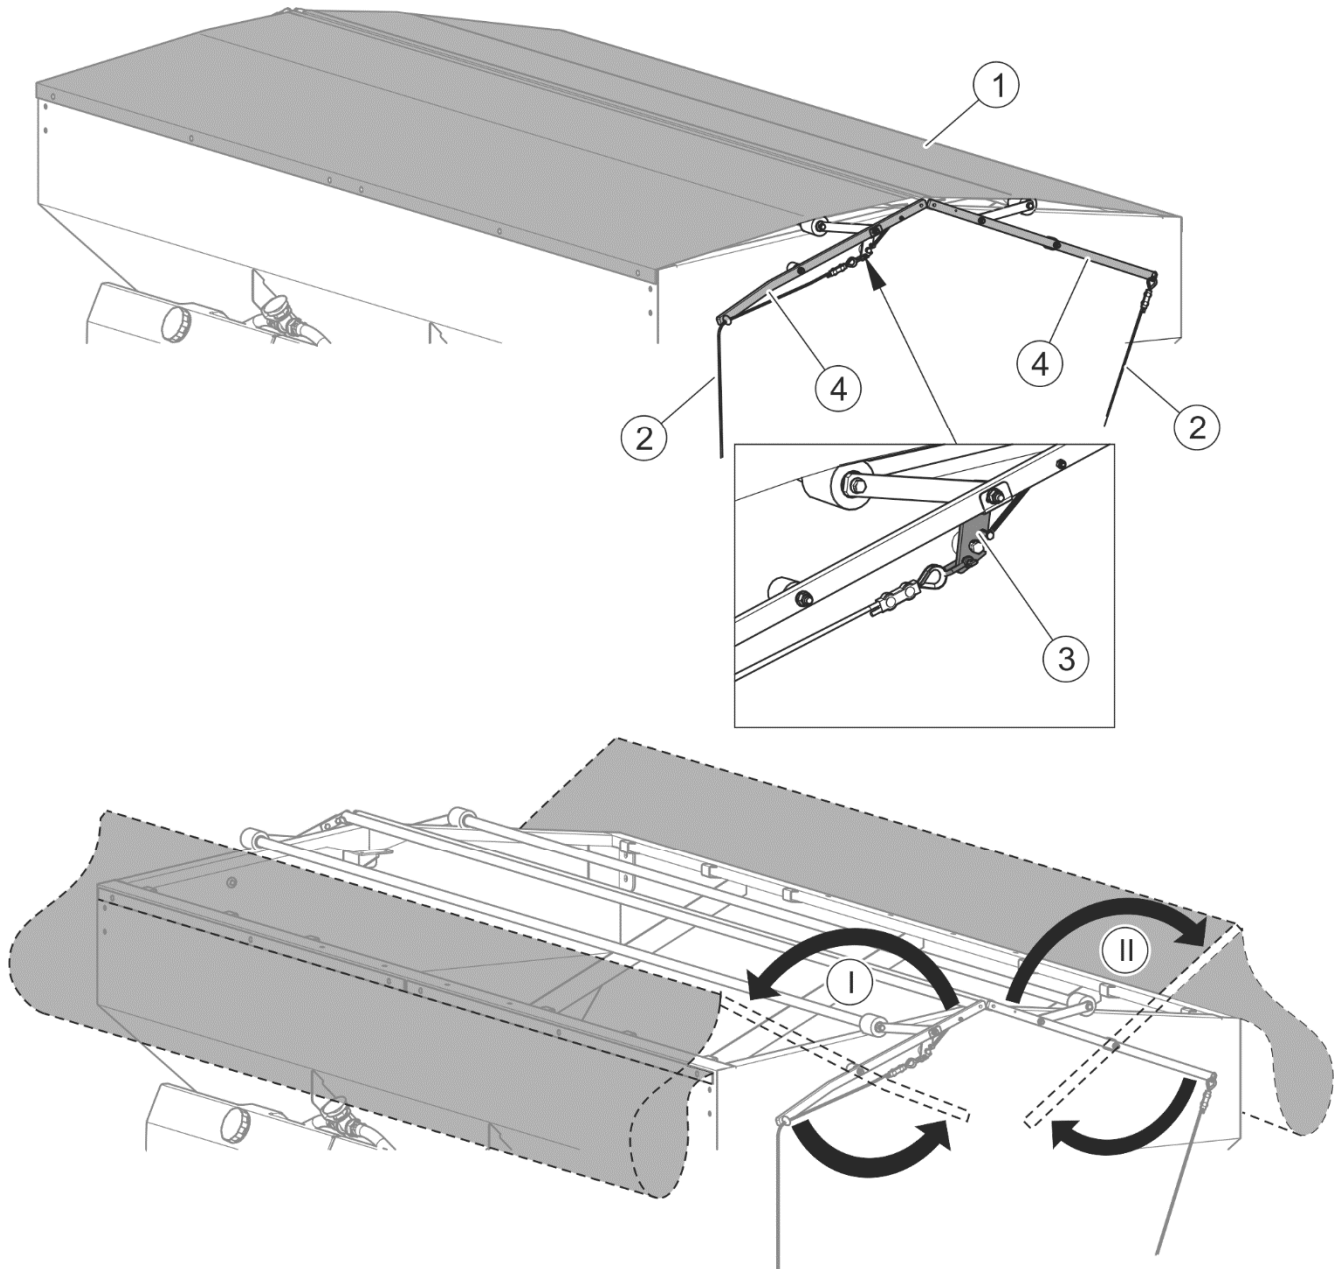

FIGURE 4.18 Raising the tank's tarpaulin cover
- hold the ladder (1) and remove securing cotter pin (3),
- lower the ladder (1).
Release pawl (3) by pulling a cord and raise tarpaulin cover by means of frame lever (4). Tarpaulin cover rising sequence (I) - (II) is shown in (FIGURE 4.18).
(1) - tarpaulin cover; (2) – pawl cord; (3) – pawl; (4) – lever
Before loading, check that there are no foreign objects (tools, stones etc.) in the tank. The tank should be loaded from above through the sieve that prevents lumps of material from entering the tank. When loading the tank, it is recommended to use a front loader or belt conveyor. Efforts should be made to evenly distribute the load in the tank in order to ensure proper stability of the sand spreader. Avoid throwing material into the tank from a great height. After loading, cover the tank with tarpaulin cover (FIGURE 4.18) and make sure that the pawl (3) is locked.